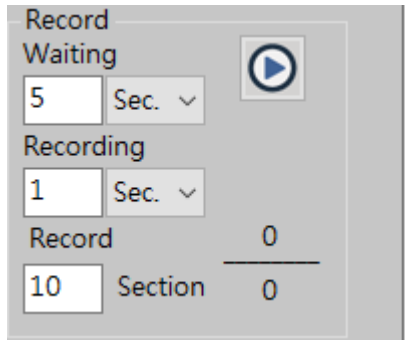
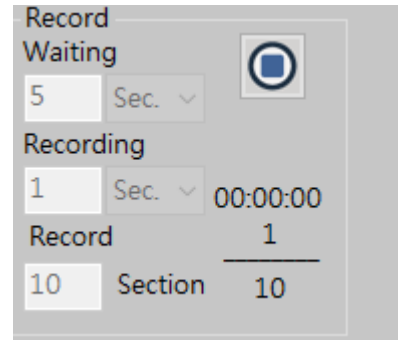

Fig 5-61 Time Lapse –Video Record
Fig 5-62 Time Lapse – Video Recording
(2) Record : Setup Start time, Time Interval, and Files number to active Time lapse function, see Fig 5-61. The actual action refer to Fig 5-62.